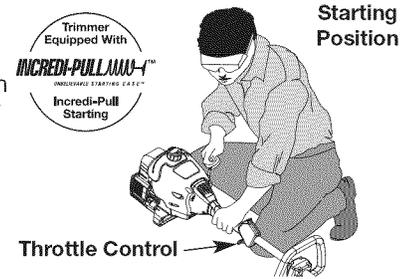

Fig. 4
WARNING: Avoid accidental starting. Make sure you are in the starting position when pulling the starter rope (Fig. 4). To avoid serious injury, the operator and unit must be in a stable position while starting.
4. Crouch in the starting position (Fig. 4). Do not squeeze the throttle, pull the starter rope with a controlled and steady motion until the unit starts. Wait 30 to 60 seconds, then squeeze the throttle to control the cutting speed. For temperatures below 50° F (10° C), please refer to the note below.